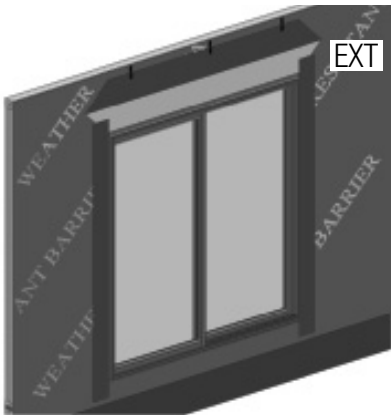

FIG. 17
- A) Cut and apply side flashing. Side flashing should run from the bottom of the sill flashing to 8" above the rough opening. (Fig. 17)